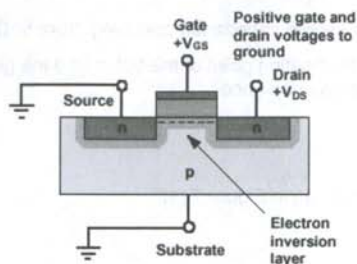

Fig. 4: Biasing of a NMOS FET
With a positive voltage on the Drain (D) with respect to the Source (S), the Gate (G) must be biased to a positive voltage (again with respect to Source) to allow a Drain-Source current (I_d) to flow. This can be seen in Fig. 4.